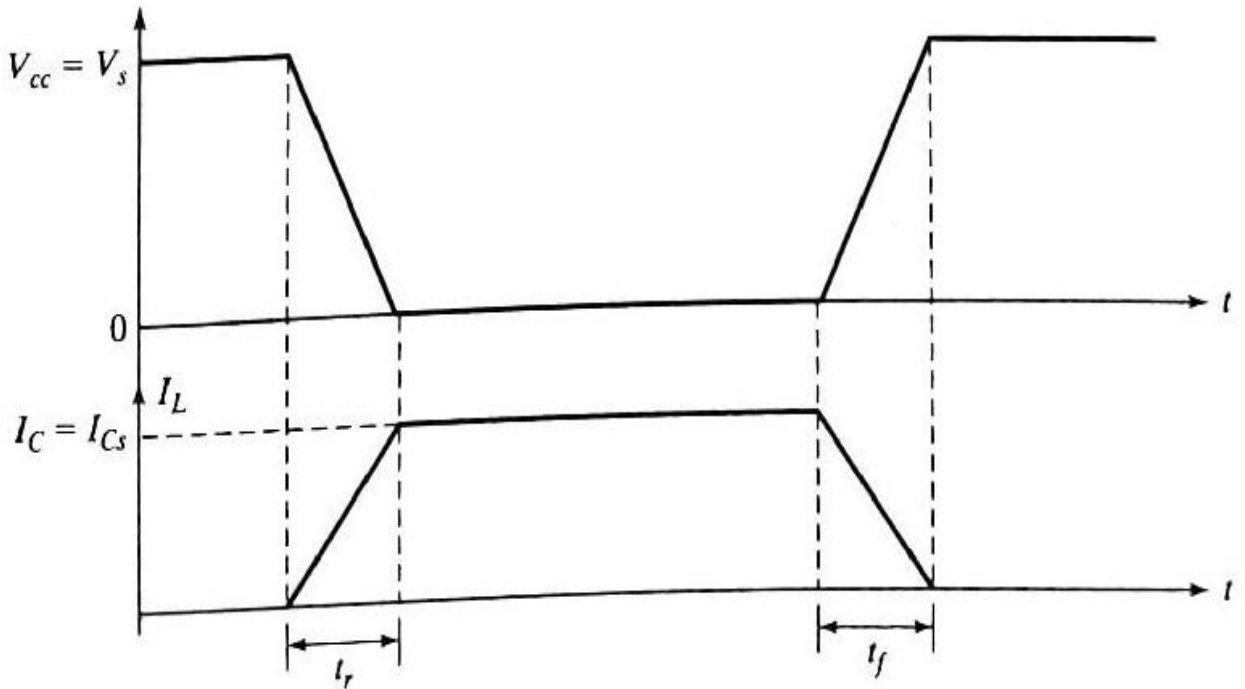

FIGURE 4.46
b) Neglecting the delay time t_d and the storage time t_s , the typical voltage & current waveforms of a transistor switch are shown in Figure 4.46.